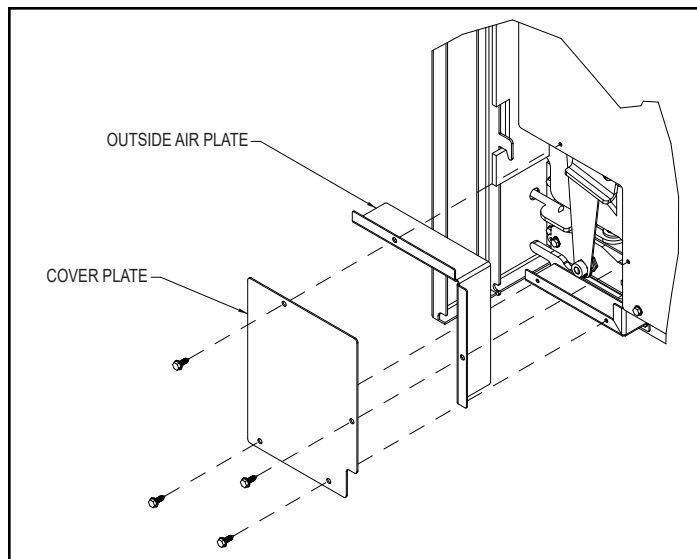

Figure 18.2
2. Remove screws holding outer covers in place on both sides. Place outside air plates in channel as shown (outside air plates are located in component pack). Re-install outer covers. (Figure 18.2)